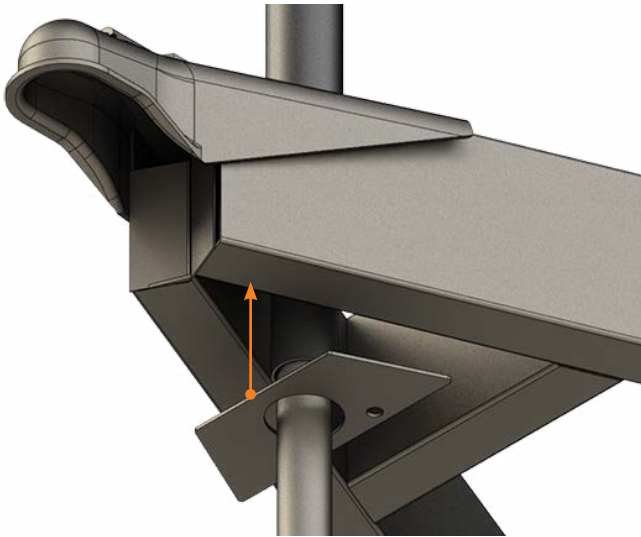

Fig.6
4. Using the tongue jack as a guide (not shown for clarity), insert the replacement lower jack plate onto the tongue jack. Then position the lower jack plate onto the A-frame (Fig.6).